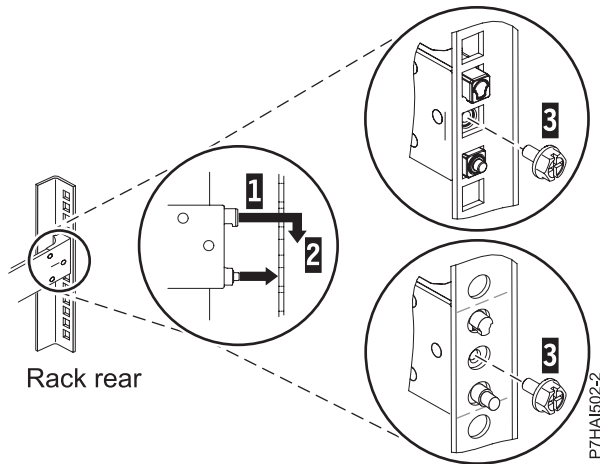

Figure 5. Alignment of the pins with the holes at the rear of the rack
**Note:** The pin fixtures of the slide rails support either round-hole or square-hole rack models, as shown in Figure 5.